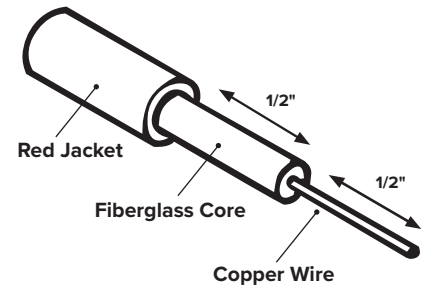

Fig. 1
2. Once jacket is removed, use pipe cutter again to score a mark around fiberglass core approximately 1/2" from edge of jacket. Use sharp knife to carefully strip away 1/2" of fiberglass core closest to rod end to expose copper wire. Be careful not to damage wire. The 1/2" portion of rod closest to jacket will remain intact (Fig.1).